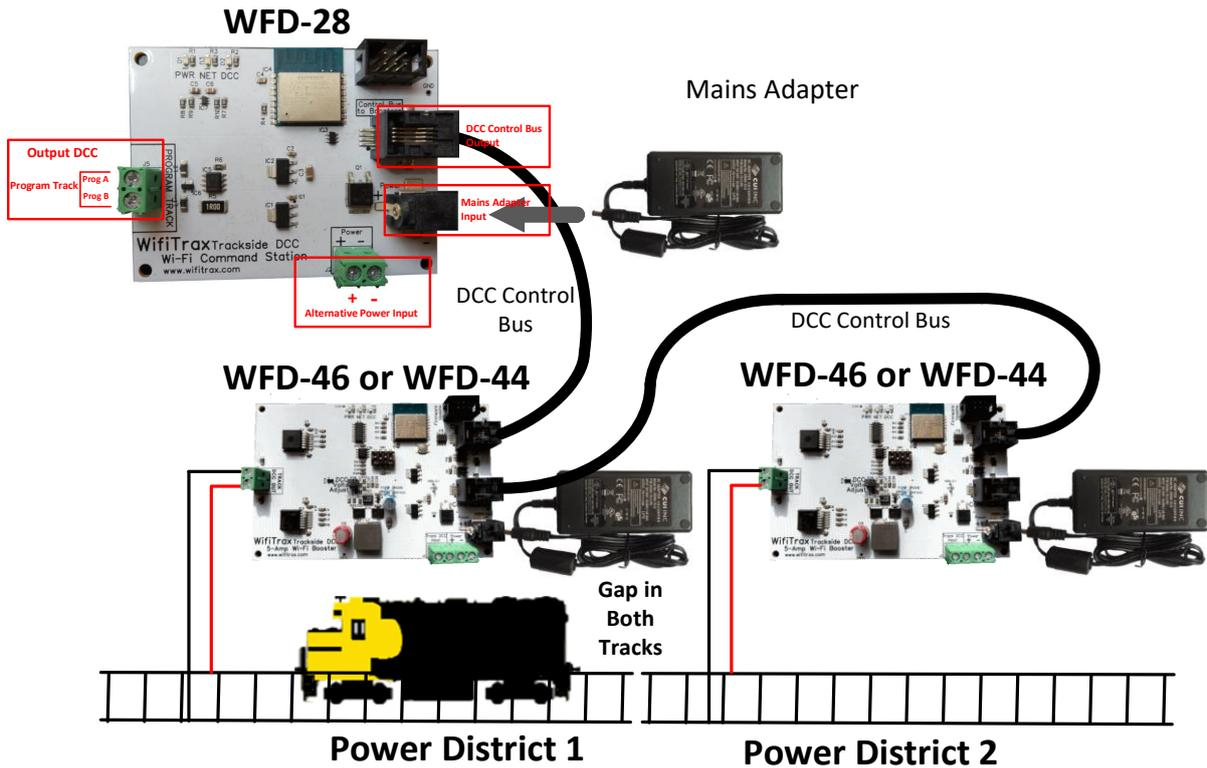

Figure 6 Connecting the WFD-28 Module to your Boosters, Track and Power
- (3) Mounting: Mount your WFD-28 Module in a convenient location where nothing metal will touch it, either in a plastic box or at a convenient location on your baseboard or fascia. Please see the “Mounting Suggestions” section. As a minimum, make sure it will not be dragged around by pulling on a connected cable and touch on some metal object. **Do not let the unit touch powered track or it may be damaged beyond repair!**
- (4) Connect: Connect a suitable Power Adapter to your module or supply power through the Alternative Power Connectors. Connect the Control Bus output of your WFD-28 to a DCC Booster such as Wifitrax WFD-46 as shown in Figure 6.
- (5) You must also supply power to your boosters. The WFD-46 requires 18V DC power at minimum so it is best to use a separate adapter. However, if you have a large, high current rated power supply, you can share the power between boosters using the Alternative Power inputs instead of the Power Adapter inputs.